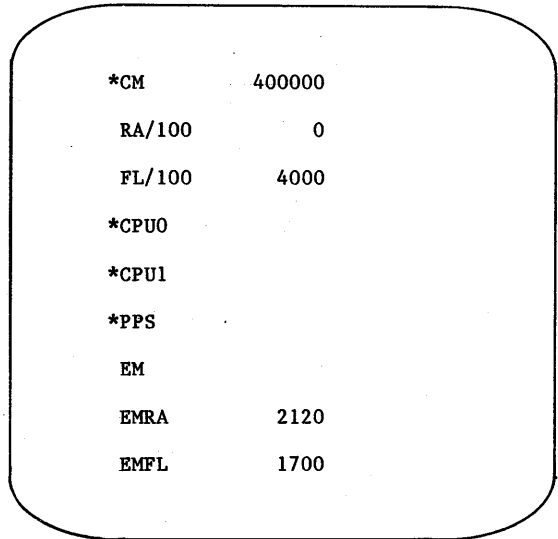

Figure 5-1. HIVS Display
1. Enter a V to select HIVS. The display shown in figure 5-1 appears. Asterisks (*) on this display indicate the hardware to be tested.